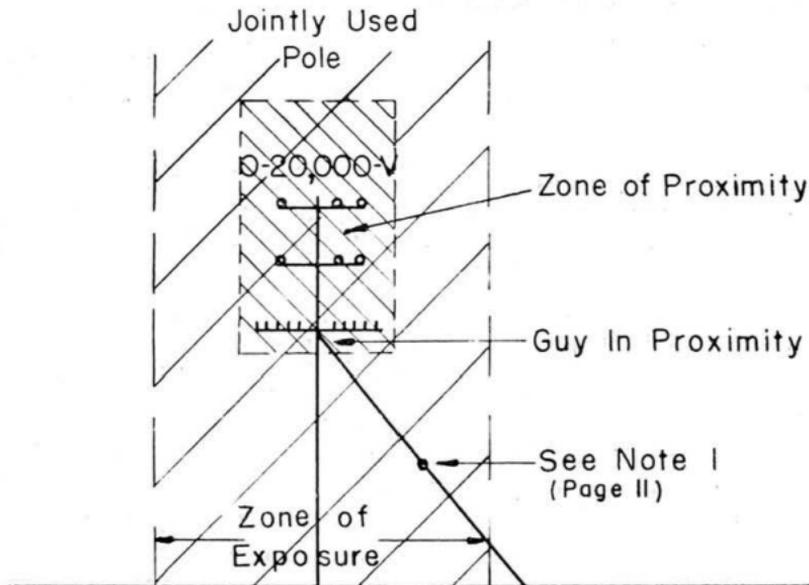

FIG. 107
- (1) Not less than 8 feet below the lowest supply conductor or,
- (2) Not less than 6 feet from surface of pole and one foot below the lowest supply conductor. (See Figs. 107 and 108.)